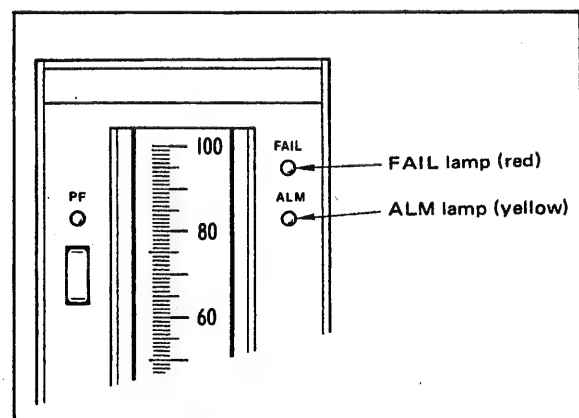

Figure 5-3-3. FAIL and ALM Lamps.
(1) Alarm checking (See Figure 5-3-3.)